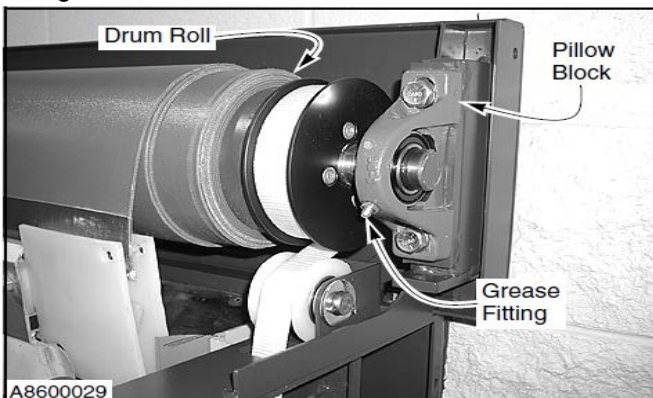

Figure 25.
3. **Pillow Block Bearings:** The drum roll is supported by a pillow block bearing located at the opposite end of the drive motor gearbox assembly. The pillow block has a grease fitting. (See Figure 25.)